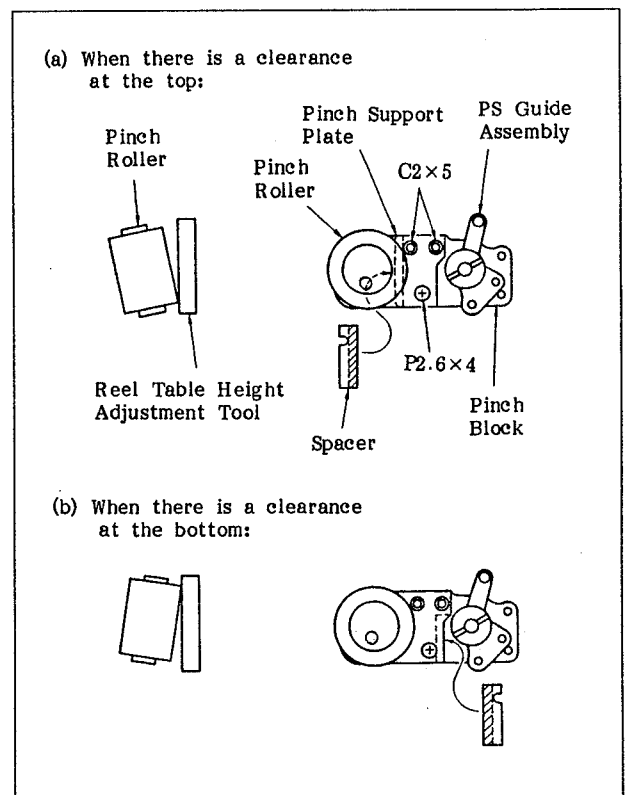

Fig. 6-96 Adjustment of the Azimuth of the Pinch Roller
- Loosen the three screws that hold the pinch support plate, shown in Figure 6-96. Then, insert the appropriate thickness of the spacer, shown below, between the pinch support plate and the pinch block and tighten the three screws firmly.